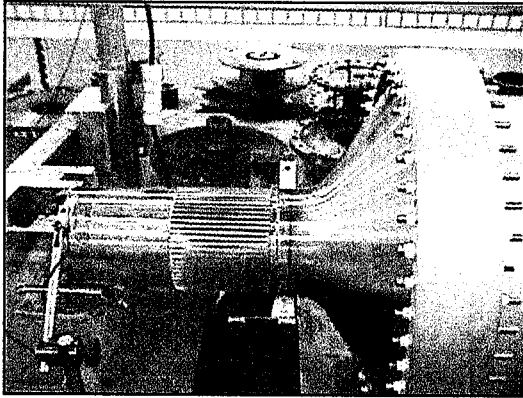

Figure 25 - Indicating Forward End
- a. Before the coupling can be assembly balanced, it must be indicated to represent the actual installation between the turbine and gearbox. Ensure that both ends are indicated in. (See Figures 25, 26, and 27)